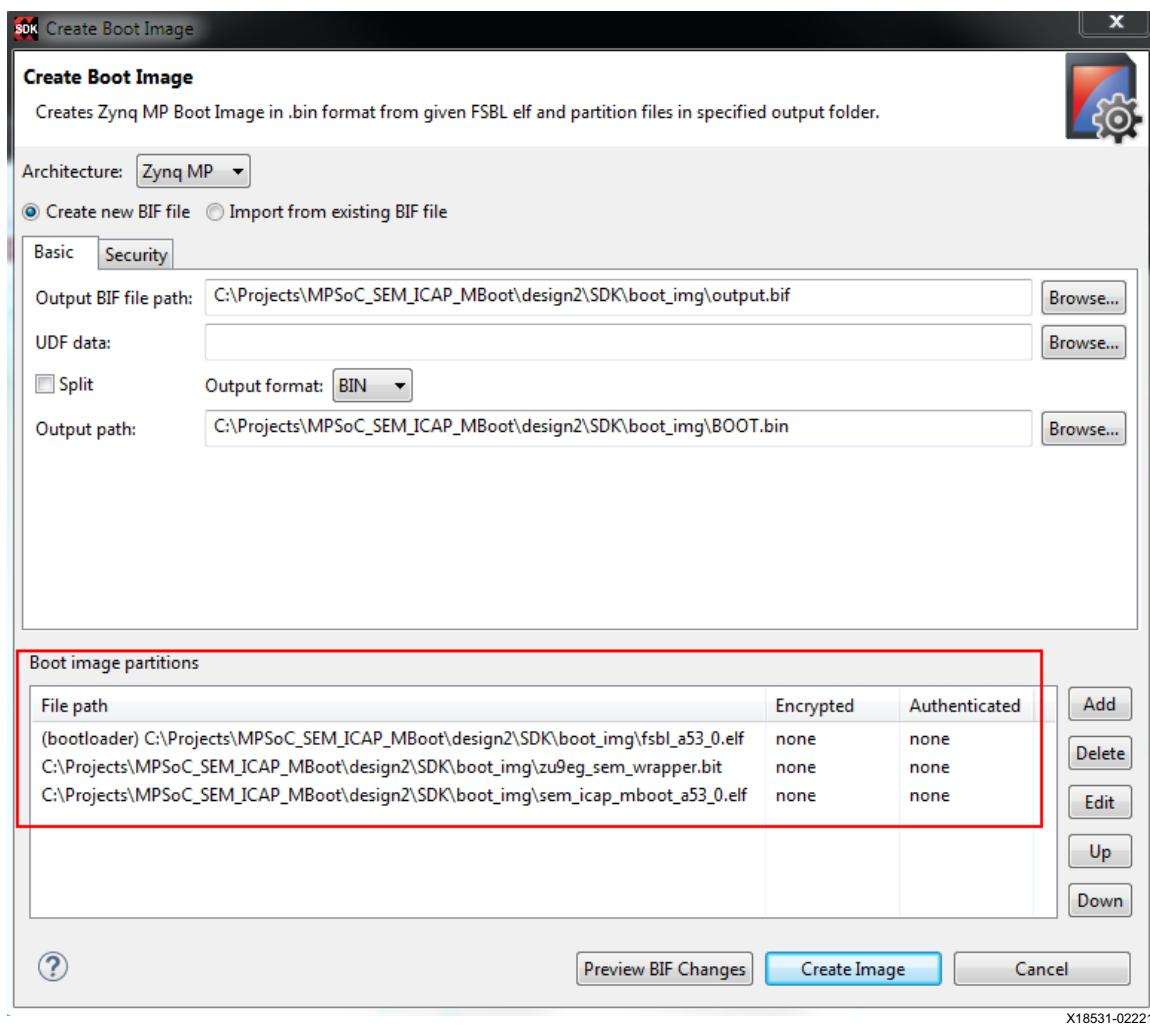

Figure 31: Design 2 - Create Boot Image
10. Verify the **Boot image partitions** paths. See Figure 31. Click **Create Image**.